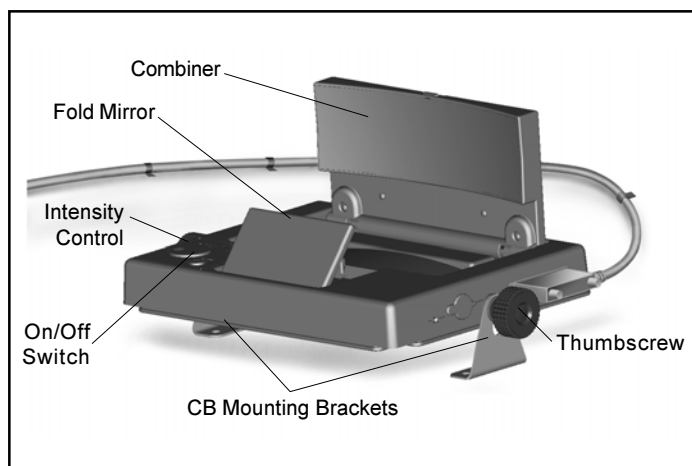

Figure 4 CB Mount (Dashboard)
**CB Mount (Dashboard)** - the display is mounted on the vehicle dashboard (head-down). See Figure 4.